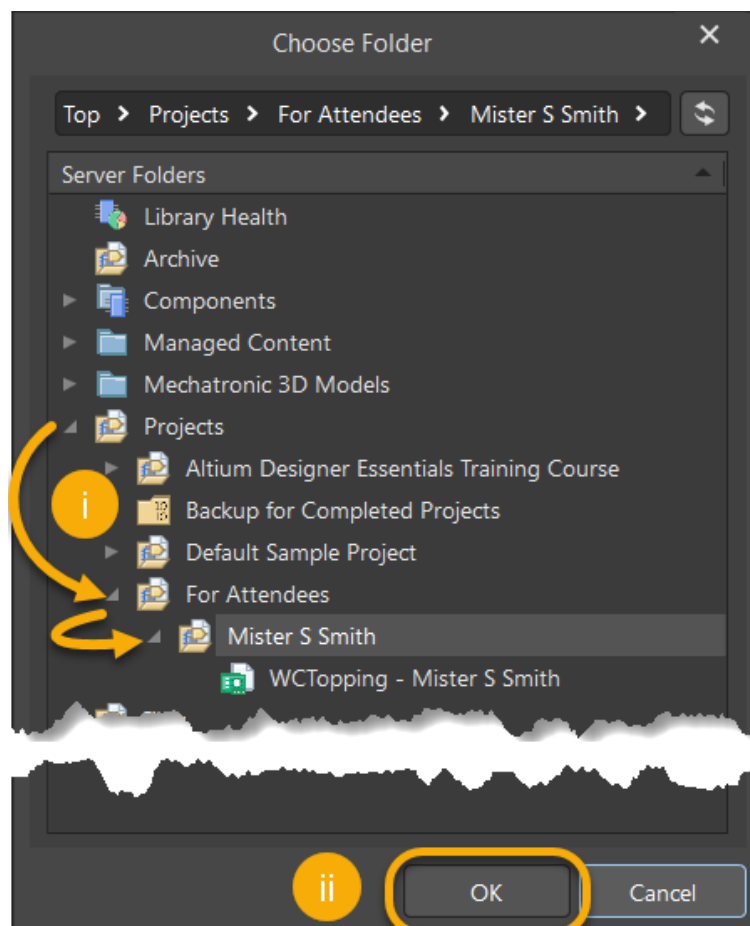

Figure 5. Last Image Step d - Choose Folder for Project Copy
- c) Open the Advanced section if needed. Select the Ellipsis Button **...** from the **Folder** configuration to open the *Choose Folder* Dialog, Figure 5.